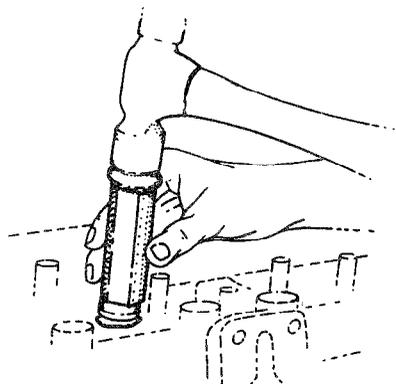

Fig. 14 — Driving Sleeve into Head
- c. Insert the tool with the sleeve into the head; drive the sleeve into position with a hammer (see fig. 14).